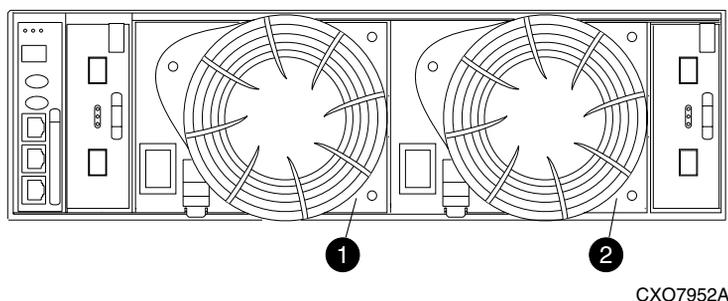

Figure B-1: Power supply element numbering
0.2.	Power Supplies (see Figure B-1 on page B-7)